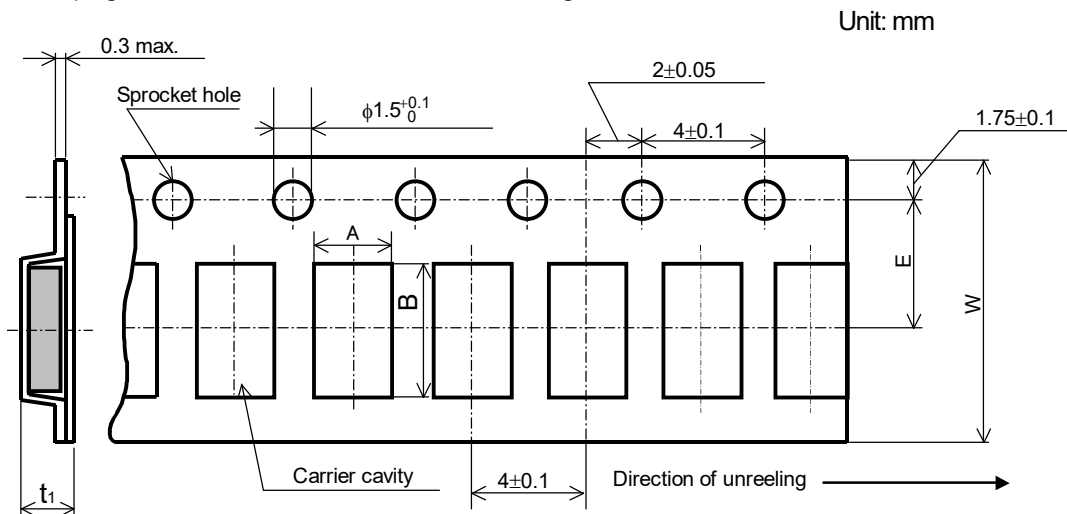

Figure-7
8.2.4 Embossed tapping dimensions shall be in accordance with Figure-7 and Table-8.